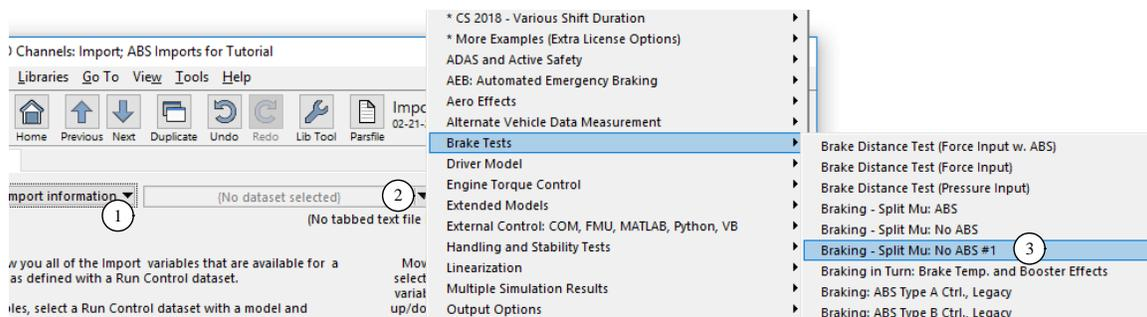

Figure 26. Select a Run Control data with the vehicle of interest.
1. Use the drop-down control to **Choose run to get import information** (1). When this option is selected, a potential link is shown for a **Run Control** dataset (2) (Figure 26).